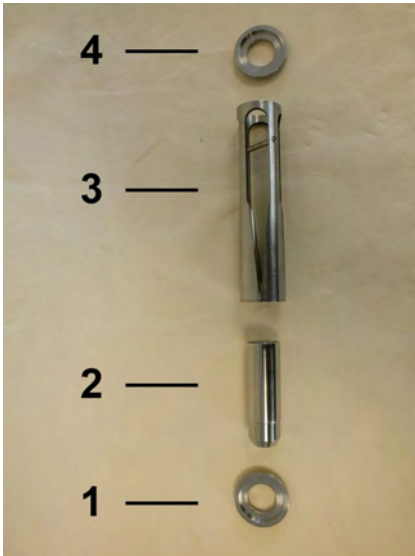

Fig. 54: Inner parts
6. ➤ The inner parts of the flow monitor consists of the centering disc (inlet) (Fig. 54/1), float (Fig. 54/2), slot nozzle (Fig. 54/3) and centering disc (outlet) (Fig. 54/4).